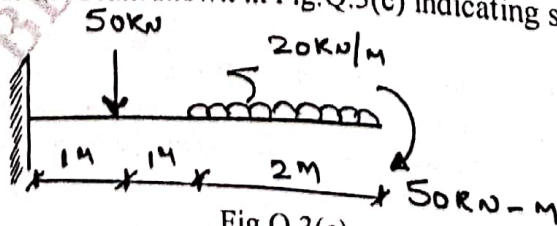

Fig.Q.3(c)
- c. Sketch SFD and BMD for the beam shown in Fig.Q.3(c) indicating salient points. (06 Marks)